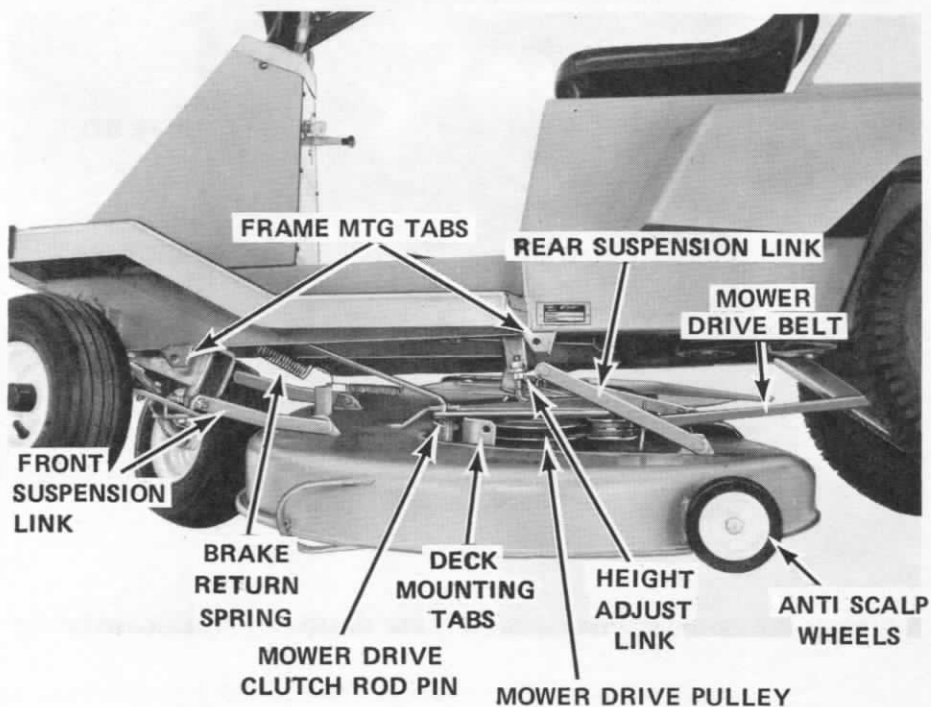

FIGURE 24
3. Remove front and rear suspension link and height adjust link cotter pin, left side first as shown in Figure 24.